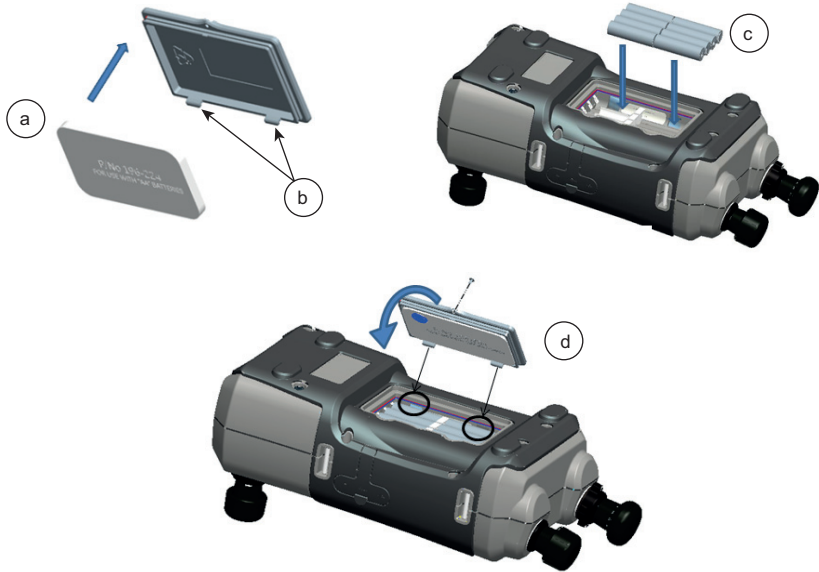

Figure 1-2: Fit Dry Cell Batteries
7. Replace the battery cover by pressing the lugs (b) inside the slots (d) and bring down the cover, securing by tightening the fixing screw. (See Figure 1-2).